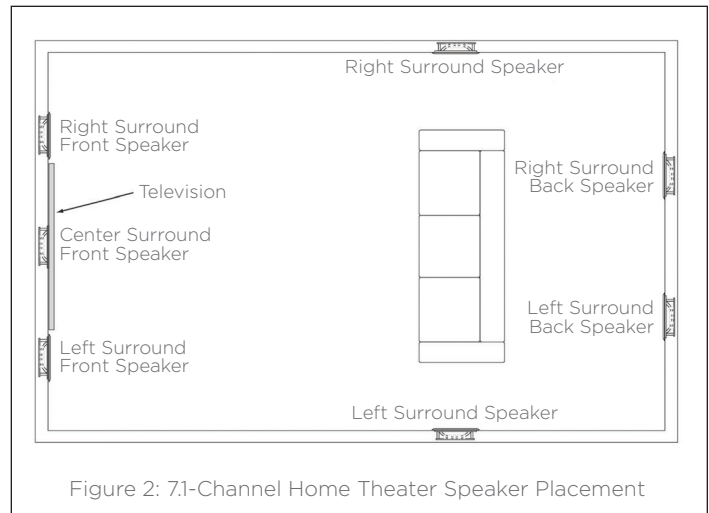

Figure 2: 7.1-Channel Home Theater Speaker Placement
- Surround back speakers: Place the surround back speakers in the rear wall, 3 – 6 feet (0.9 – 1.8m) apart and at 5 – 7 feet (1.5 – 2.1m) from the floor (see Figure 2).